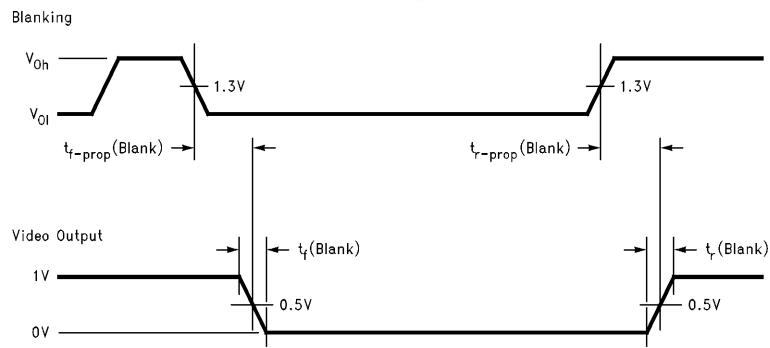

FIGURE 2
**OSD Electrical Characteristics** See DC Test Circuit (Figure 2),  $T_A = 25^\circ\text{C}$ ;  $V_{CC1} = V_{CC2} = 12\text{V}$ ;  $V_{13} = 4\text{V}$ ;  $V_{14} = 4\text{V}$ ;  $V_{16} = 4\text{V}$ ;  $V_{Drive} = 4\text{V}$ ;  $V_4 = 4\text{V}$ ;  $V_{15} = 0\text{V}$ ;  $V_{25} = 1\text{V}$  unless otherwise stated
**OSD Electrical Characteristics** See DC Test Circuit (Figure 2),  $T_A = 25^\circ\text{C}$ ;  $V_{CC1} = V_{CC2} = 12\text{V}$ ;  $V_{13} = 4\text{V}$ ;  $V_{14} = 4\text{V}$ ;  $V_{16} = 4\text{V}$ ;  $V_{\text{Drive}} = 4\text{V}$ ;  $V_4 = 4\text{V}$ ;  $V_{15} = 0\text{V}$ ;  $V_{25} = 1\text{V}$  unless otherwise stated (Continued)
Figures 2 through 4 show the timing diagrams for the LM1282. When measuring propagation delays all TTL signals are measured at the time they cross 1.3V. The video output is set to 4 Vpp. Propagation delay is measured when the output is half way in its transition (changed by 2V). Rise and fall times of the video output are measured between the 10% and 90% points of the transitions.